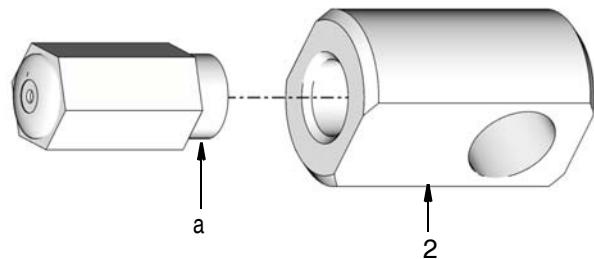

FIG. 2
3. Apply thread sealant (user supplied) to threads of pressure relief valve (a) (FIG. 2).
4. Install pressure relief valve (a) into banjo fitting (2). Wrench tighten (FIG. 2).